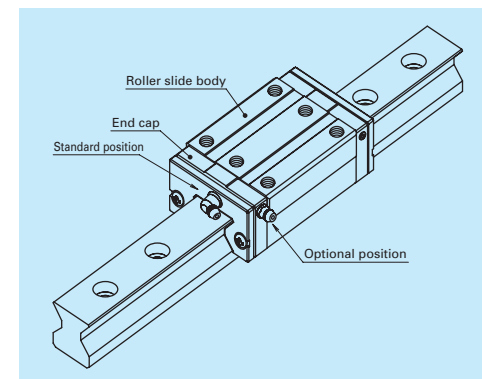

Fig. 11 Mounting position of lubrication accessories
- The standard position for grease fittings is at the end face of the roller slide, but we can mount them on the side of the end cap for as an option. (**Fig. 11**) Please consult NSK for the installation of grease or tube fittings to the roller slide body.